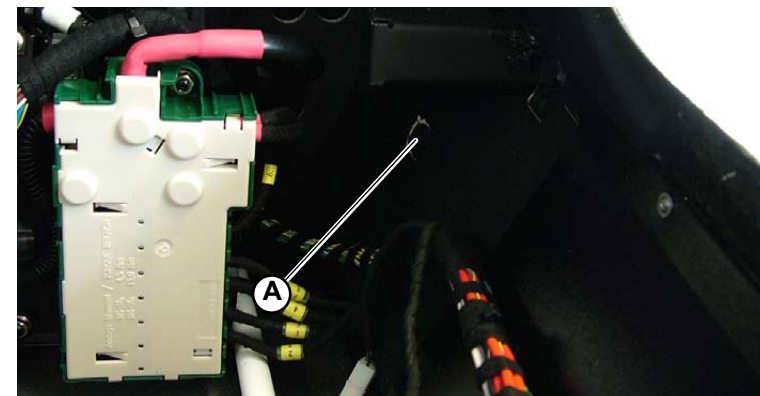

Fig.1
- 1. Unscrew the screws securing the body side member (A-Fig.1) to the car using the free space created by the rear seat cover.